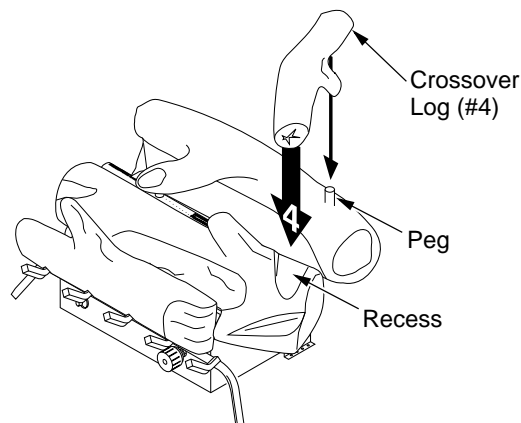

Figure 24 - Installing Crossover Log (#4)
4. Place crossover log (#4) onto the pin (right) on back log (#2) and into the recess of the middle log (#1) (see Figure 24).